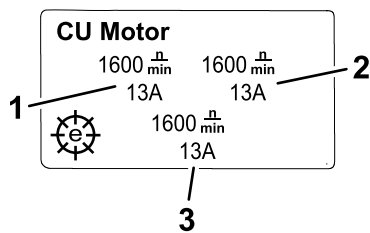

Figure 22
- **CU motor information screen** (Figure 22): shows the speed and current of each cutting-unit motor.